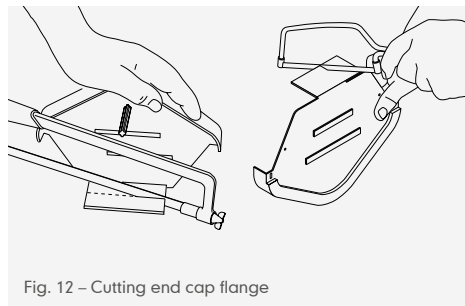
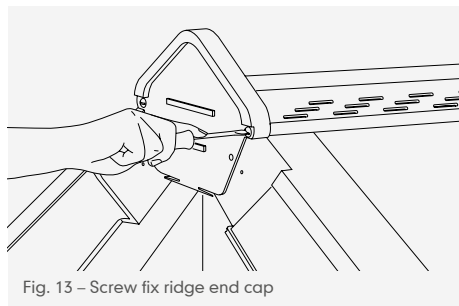

Fig. 12 – Cutting end cap flange
Fig. 13 – Screw fix ridge end cap
- 13 If required, trim flange of ridge and cap to fit between top course verge units (Fig. 12, page 140). Screw ridge end cap to end of dry ridge batten by locating 30mm stainless steel screws into end of circular beads on upper flange (Fig. 13, page 140).
- 14 Screw ridge end cap through top course verge unit, to end of top course tiling batten. Locate 30mm stainless steel screw (provided) through lower, partly formed fixing holes (Fig. 13).
- 15 If required, trim flange of ridge end cap to fit between top course verge units. (Fig. 12). Top course verge unit is secured to end of top course tiling batten in normal manner.